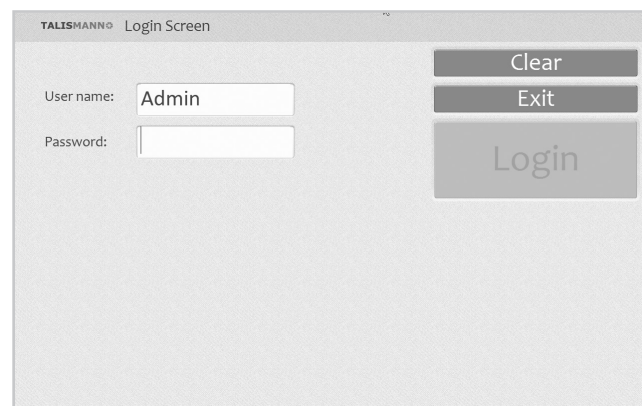

Figure 7-2: The StimRouter Plus Software Login Screen
2. If the login screen does not open automatically, then, press "Start" and then "StimRouter" to open the StimRouter Plus software. Wait for the login screen to load. See Figure 7-2.